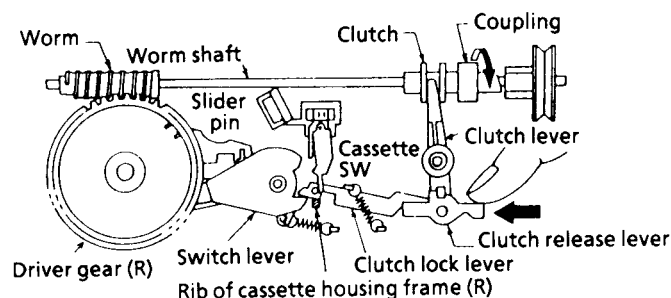

Figure 1-16.
1. Shift the slider by turning the coupling in the arrow direction (clockwise) until the slider pin is at the bottom of the slider groove as shown in the Figure 1-16. (The loading mode)
2. When the position is set as shown in the Figure 1-16, push the clutch release lever in the direction of the arrow by hand until the clutch lock lever becomes tightly locked by the rib of the cassette housing frame (R).